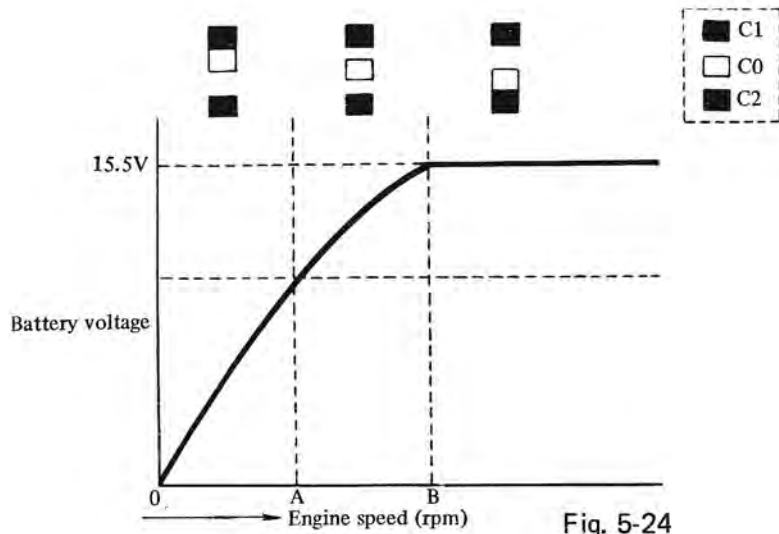

Fig. 5-24
- (4) Fig. 5-24 shows the relation between the voltage and the rotating speed of the AC generator.